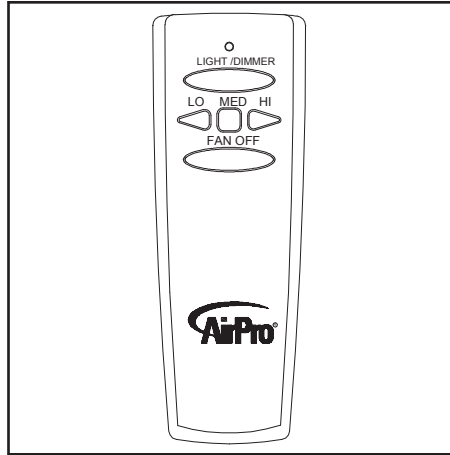

Figure 18
**Remote Control** - Your fan is equipped with a remote control to operate the speed and lights (Figure 18).